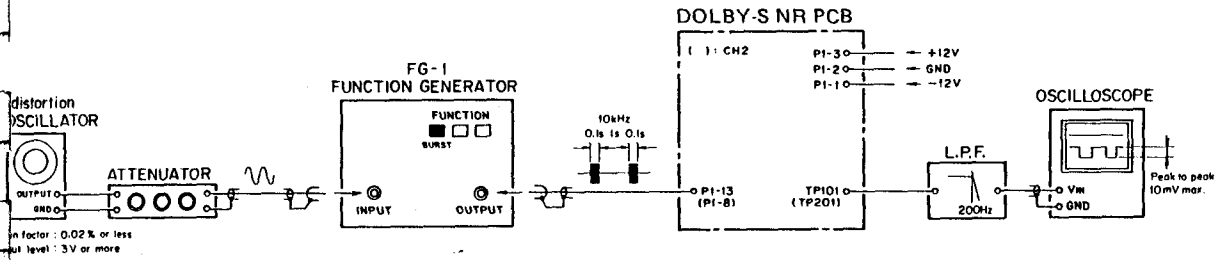

FIG. 34. DYNAMIC OFFSET ADJUSTMENT
1. Connect test equipment as shown in Fig. 34; connect a L.P.F. ($f=200$ Hz, 24 dB/OCT) to C106 (CH1 REC OUT)/C206 (CH2 REC OUT), and a storage oscilloscope to the output of the L.P.F.
3. Switch the oscillator output to -37.8 dBm (30 dB below nominal). Apply a tone burst signal of 10 kHz 100 msec On, 1 sec Off as shown in Fig. 34, to P1-1 (CH1 IN)/P1-8 (CH2 IN).